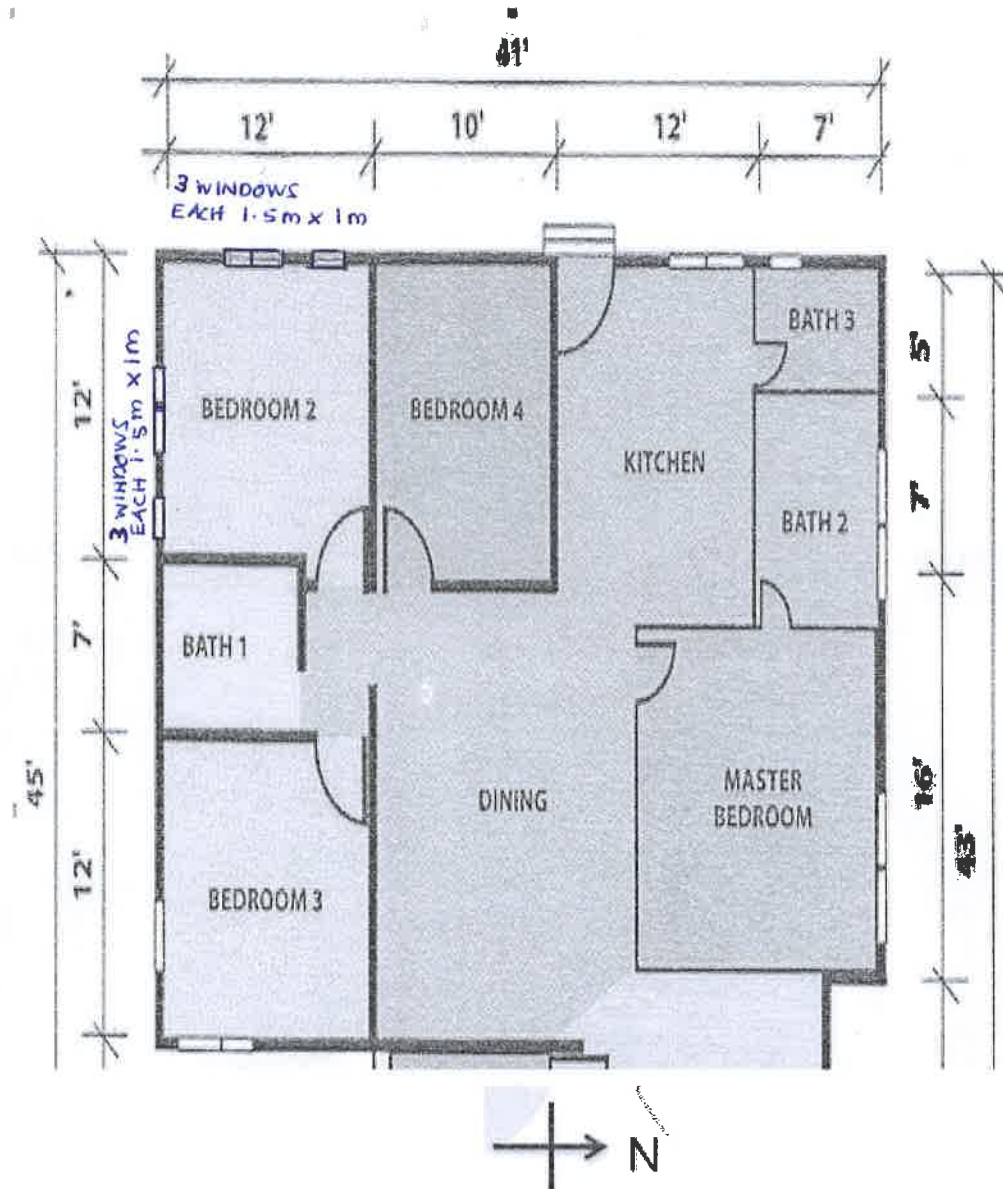

Figure Q2 (a): Single-Storey House
- (a) Referring figure Q2 (a), find the cooling load for Bedroom 2 employing the Daikin Method in Appendix 2. Given that the floor area of Bedroom 2 is 12 ft x 12 ft and its ceiling height is 10 ft.